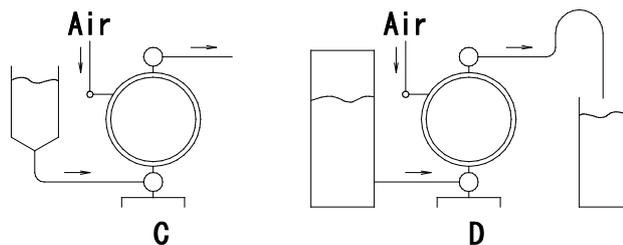

Fig. 3.1
- 1) Decide where the pump should be installed and secure a suitable space (see Fig.3.1 A to D).